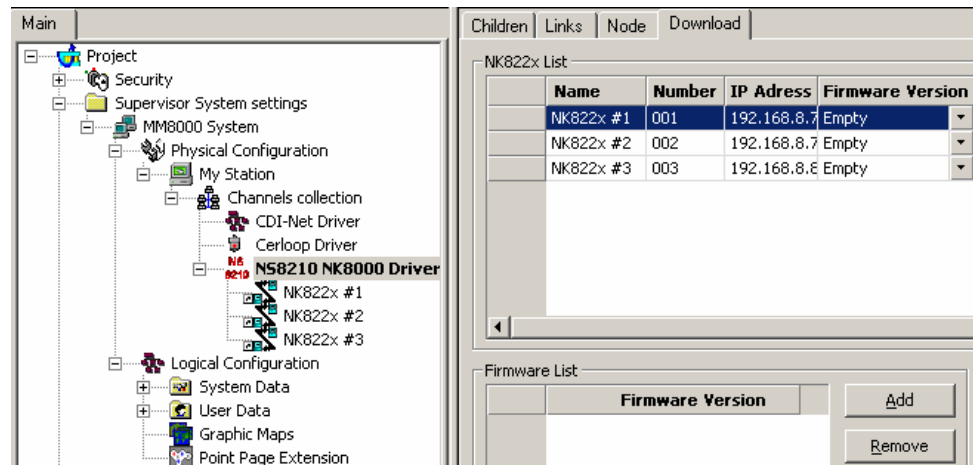

Fig. 15 'Download' tab
4. Select the 'NS8210 driver' node and then the 'Download' tab (Fig. 15).